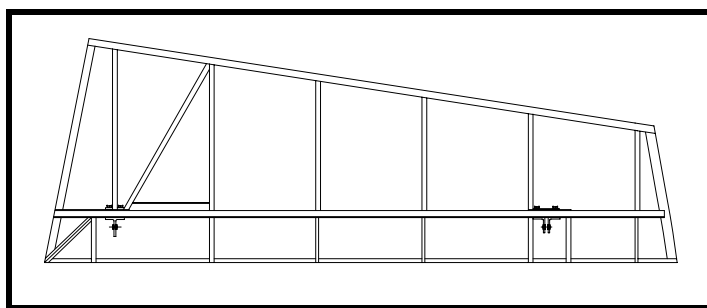

Figure 9
- ❑ Fit and glue the rudder tip bow, P/N 415-2, in place at the top of the rudder. See Figure 9.
- ❑ Install the strip of spruce at the bottom of the rudder, between the rudder spar and the trailing edge strip. See Figure 9.